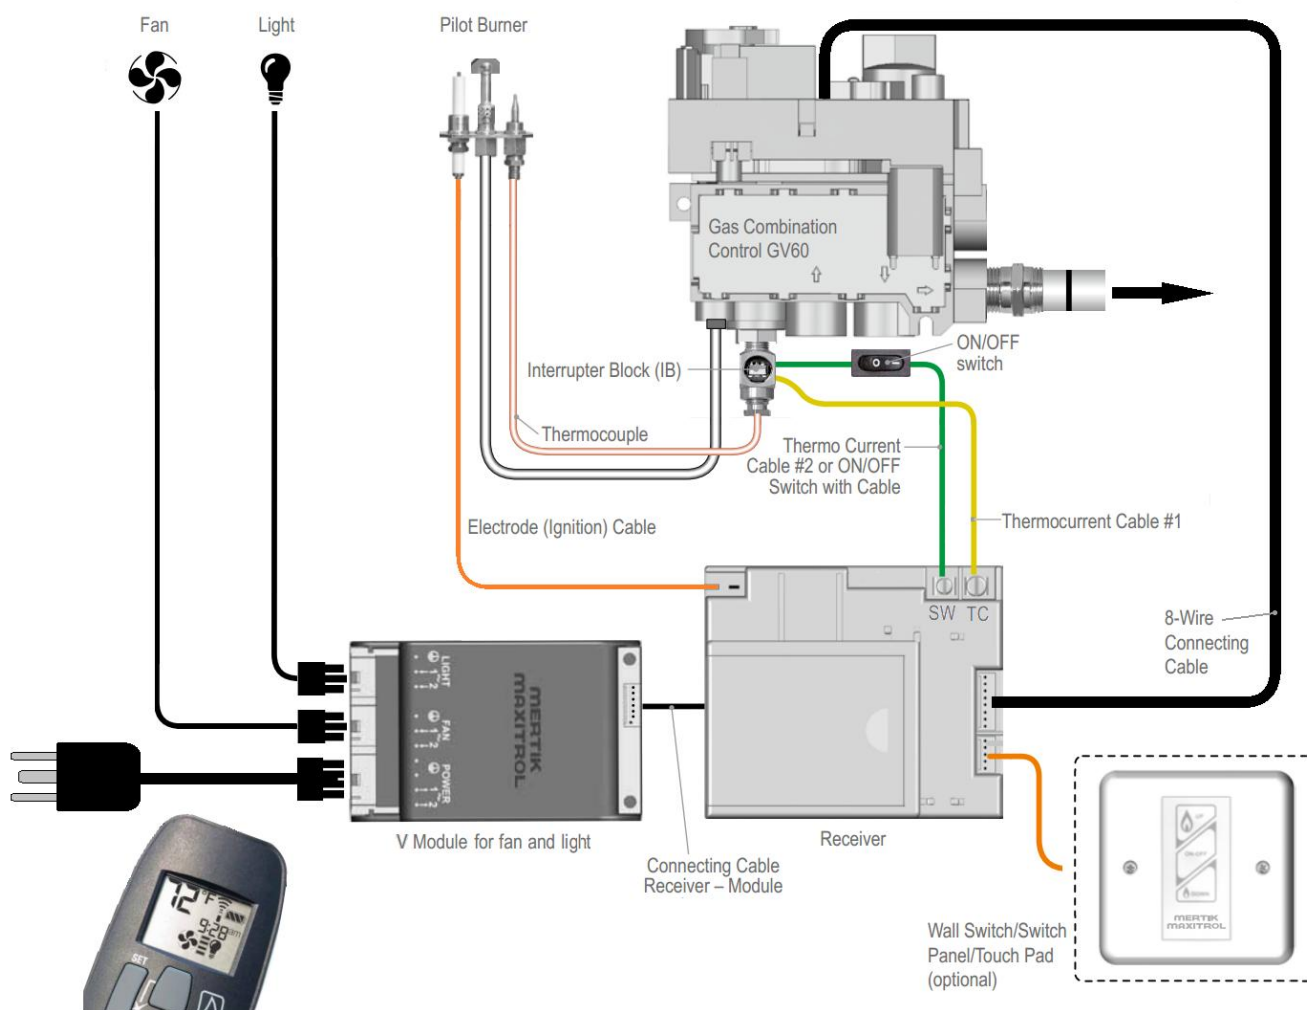

Figure 13 – Bristol 8763 Wiring Diagram
(See *Figure 13*, page 16)
1. Remove orange ignition wire from Control module and insert onto Piezo Ignitor Connection on valve top (see Figures 13 and 16).